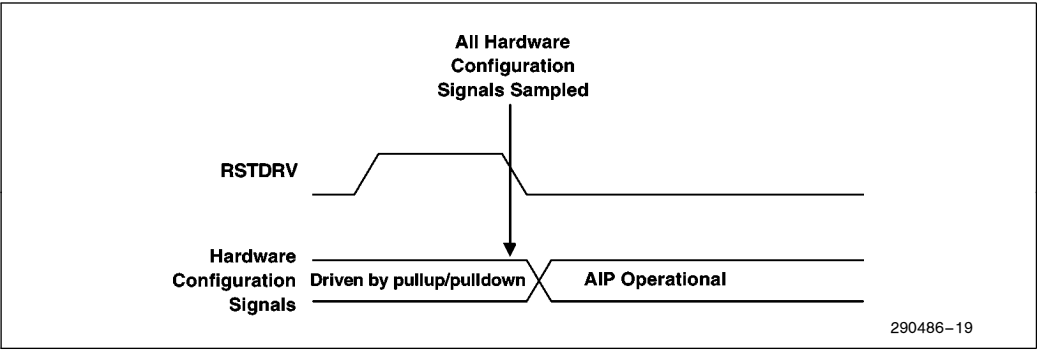
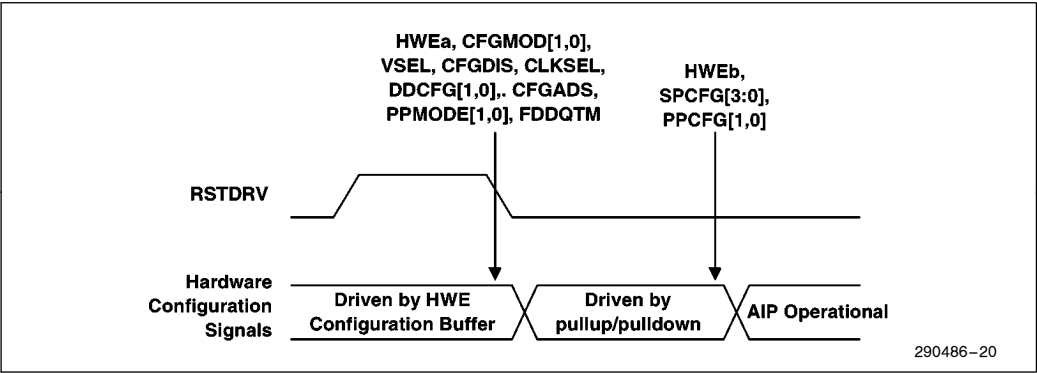
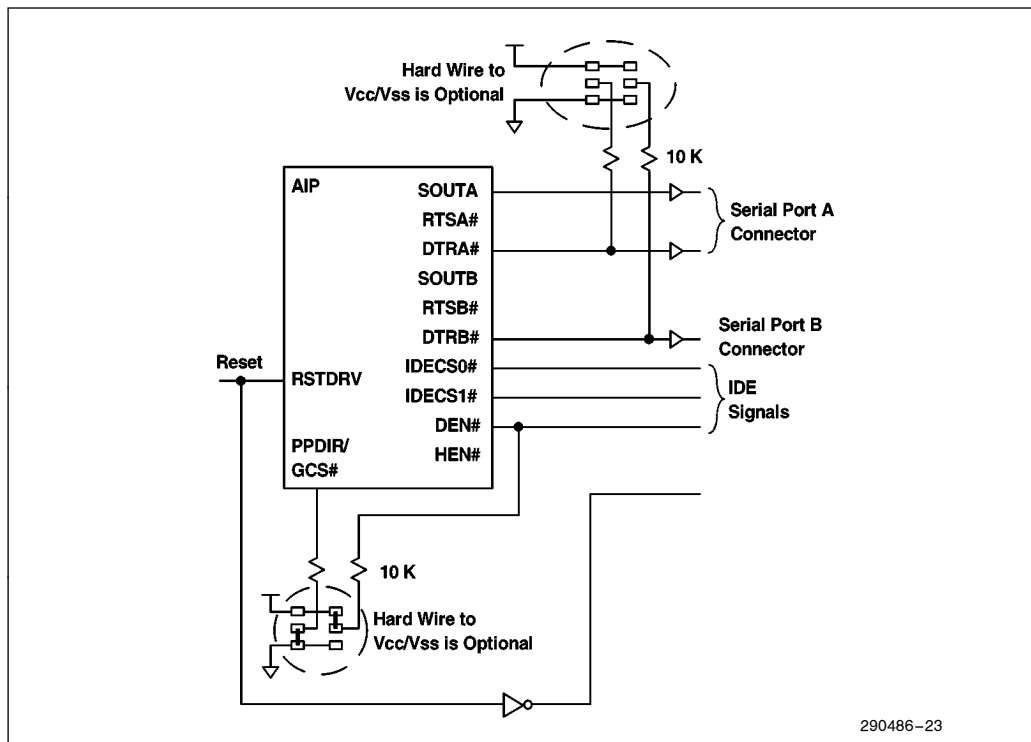

Figure 19. HWB, SWMB, and SWAI Hardware Configuration Mode Timing
Figure 20. HWE Hardware Configuration Mode Timing
### Figure 22. Hardware Extended Configuration
1. HWEa and HWEb reference the switching banks shown in Figure 22.
The 82091AA samples all of the hardware configuration signals on the high-to-low transition of RSTDRV. For the HWB, SWMB, and SWAI modes, the 82091AA completes hardware configuration on this sampling (Figure 19). For HWE mode, the 82091AA samples some of the signals twice (Figure 20). The first sampling occurs on the high-to-low transition of RSTDRV. As Figure 22 shows (see Section 4.2.5, Extended Hardware Configuration Mode), the HC367 tri-states its outputs when RSTDRV is negated. This permits the strapping options from the HWEb block to be sampled. A short time after RSTDRV is negated (the time is specified in Section 11.0, Electrical Characteristics), the 82091AA samples the SOUTA, RTSA#, DTRA#, SOUTB, RTSB#, and DTRB# signals.
When RSTDRV is asserted, the HC367 drives the values on SOUTA, RTSA#, DTRA#, SOUTB, RTSB#, and DTRB# (Figure 22). When RTSDRV is negated, the HC367 is disabled and these serial port signals are driven by HWEb pullup/down resistors. The PPDIR/GCS# signal defaults to a game port chip select (GCS#). To reconfigure the 82091AA using software, the 82091AA configuration mode must be changed to SWAI mode (refer to AIPCFG1 register).